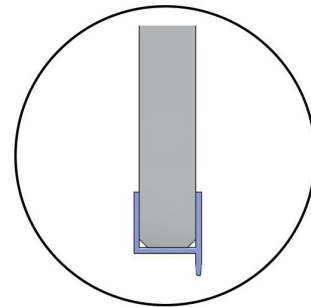

FIG 31.
- If required, slide drip seal onto bottom of door and trim fin (FIG 31). Seal should just miss top of base when door is shut. If gap between door and floor is too large, seal can be lowered up to 6mm. Seal fin can also be trimmed if too long.